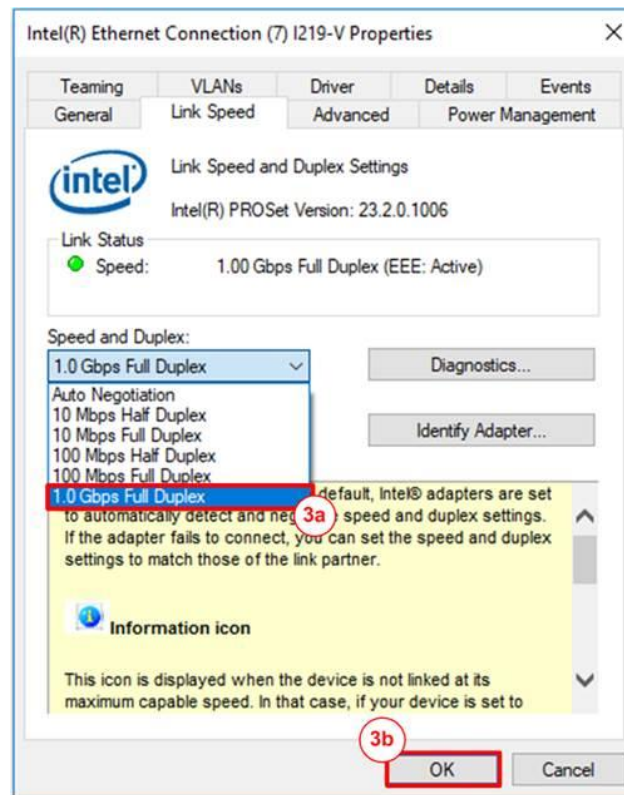

Figure 4 Set Link Speed = 1 Gbps
- 1) On Link Speed Tab, select "Speed and Duplex". Set the value to "1.0 Gbps Full Duplex" for running 1.0 Gigabit transfer test, as shown in Figure 4.